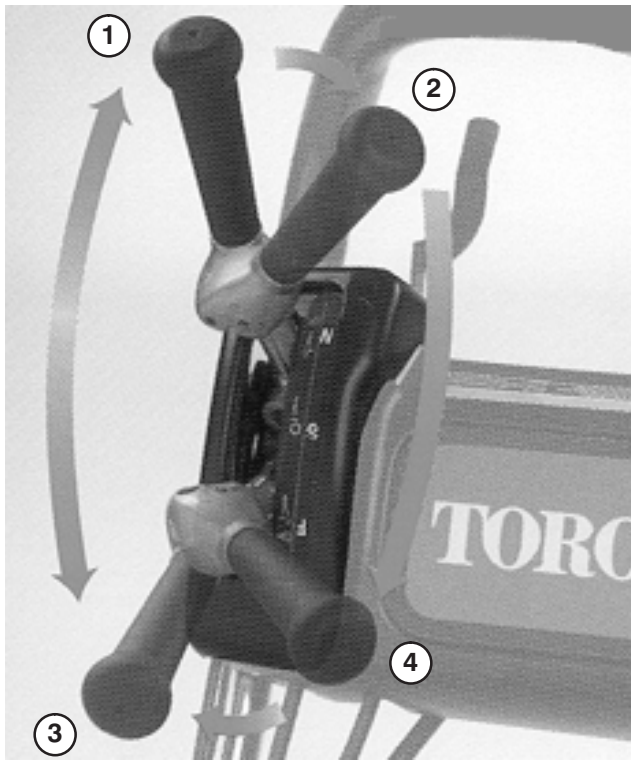

Figure 28
1. Start the engine, set the throttle at reduced speed, push down on handle to raise cutting unit, move traction lever to Engaged position and transport mower onto collar of green (Fig. 28).
2. Move traction lever to Disengaged position and Engage reel drive lever (Fig. 28).
3. Move traction lever to Engaged position, increase throttle speed until the mower is traveling at the desired ground speed, drive the mower out onto the green area, lower the front of the mower down and commence operation (Fig. 28).